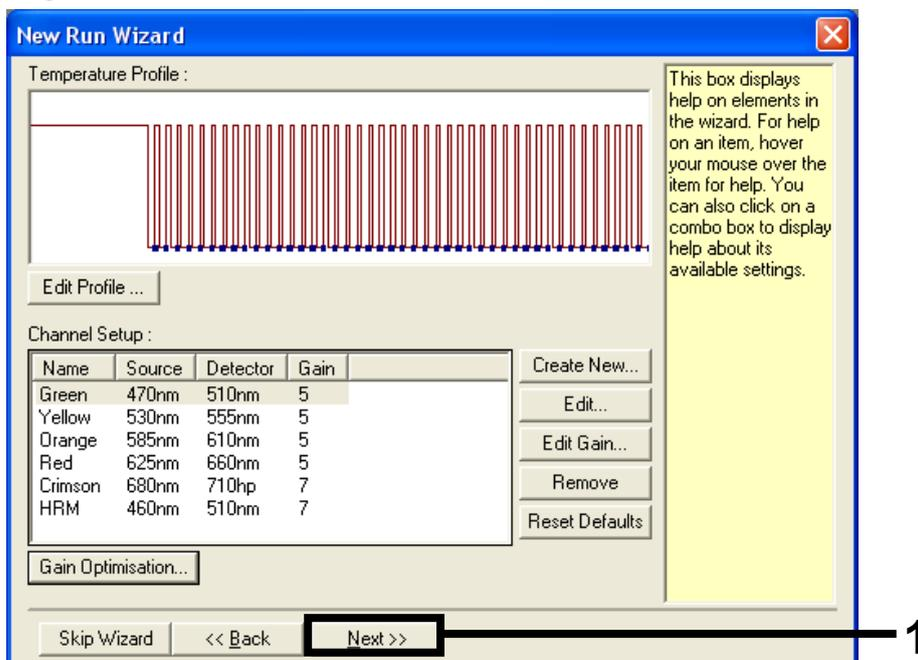

Figure 35. The "New Run Wizard" dialog box and temperature editing screen (1 = "Next" button).
4. The next window allows editing of the temperature profile. (No editing is required as the temperature profile was created according to the instructions in "Protocol: Creating a temperature profile", page 57.) Click "Next" (Figure 35).